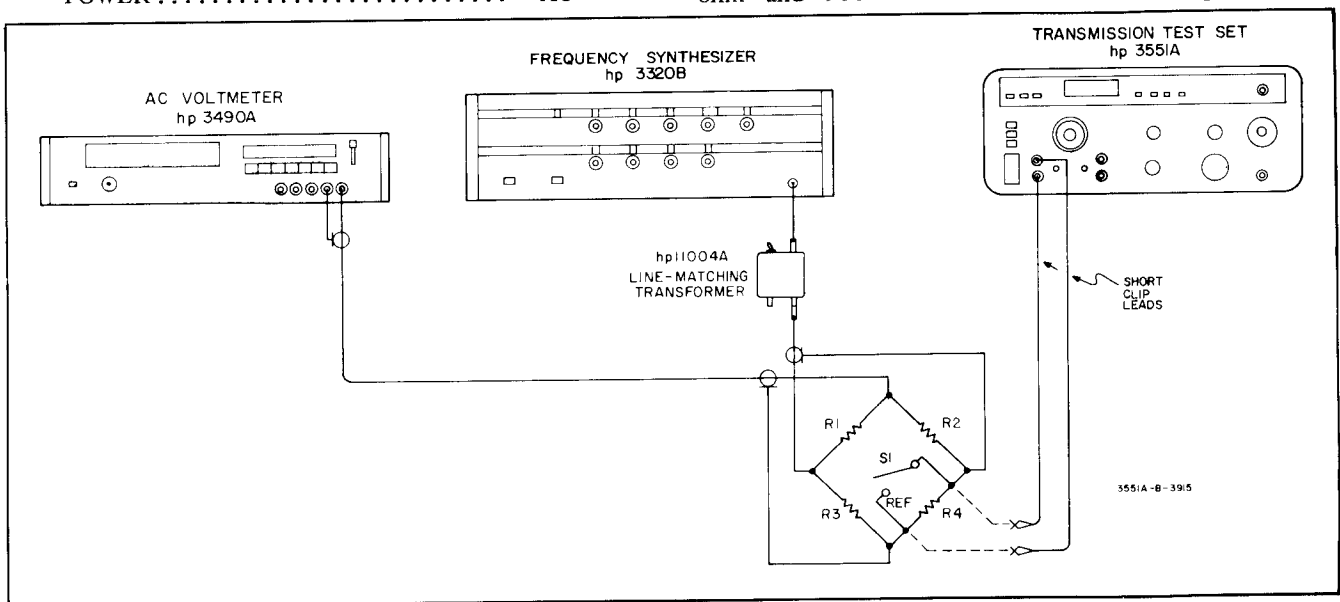

Figure 5-5. Return Loss Test Setup.
5-27. This performance test determines if the Test Set meets the Return Loss specification in Table 1-1. The specification is greater than 30 dB below reference from 500 Hz to 60 kHz for 135 ohm impedance and greater than 30 dB below the reference from 40 Hz to 20 kHz for the 600 ohm and 900 ohm impedance. To perform this test, it is necessary to construct a balanced bridge utilizing 0.1% resistors for each of the Test Set impedances. The bridge is shown in Figure 5-5. This performance test substitutes the impedance of the Test Set for a short in one leg of the
a. Connect the equipment as shown in Figure 5-5 using 135 ohm resistors in the bridge.